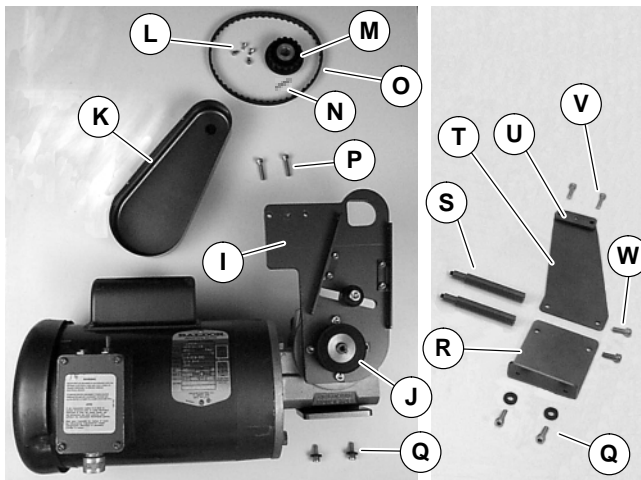

Figure 2
### 1. Typical components (Figure 2)
**NOTE:** 2100 and 6100 2" & 3" (44mm & 70mm) and 4100 1" through 6" (25mm – 52mm) conveyors do not include parts R through W of Figure 2.